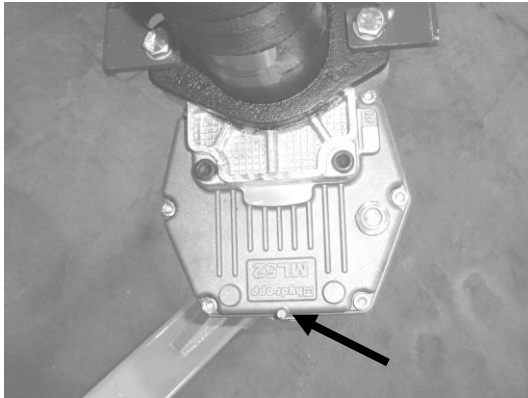

Figure 3—Increaser drain plug.
2. Place a suitable container under the increaser and remove the plug (**Figure 3**).